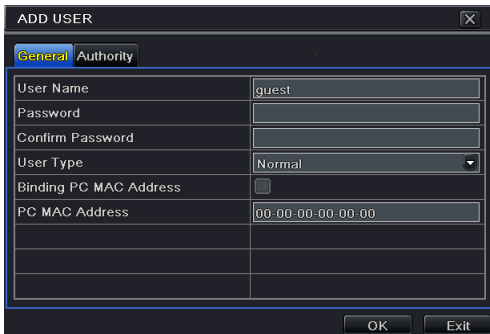

Fig 4-28 Add-General
Step 2: Click Add button to display a dialog box as Fig 4-28: